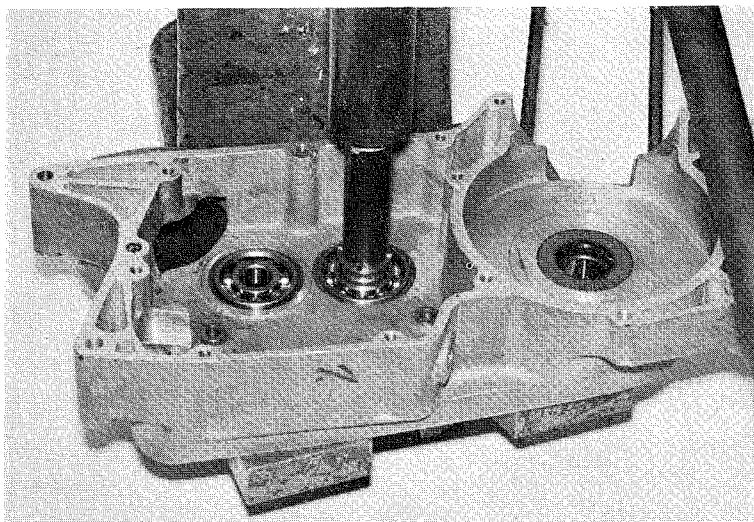

Fig. 1
1. Press the bronzebushing of the clutchshaft into place. See Fig. 1.